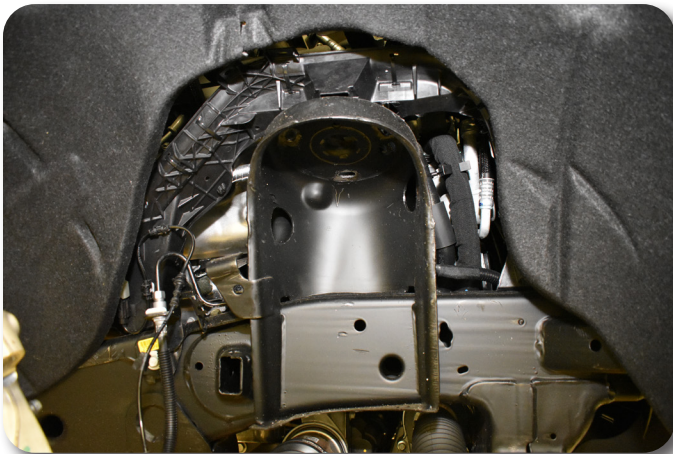

Figure 8
11. Remove the ABS wire / brake sensor wire from the upper control arm. Remove the upper control arm from the vehicle by removing the two bolts attaching the upper control arm to the strut bucket / frame **Figure 8**. Save hardware. If replacing the upper arm on a Denali truck, remove the sensor arm from the ball stud on the upper control arm.